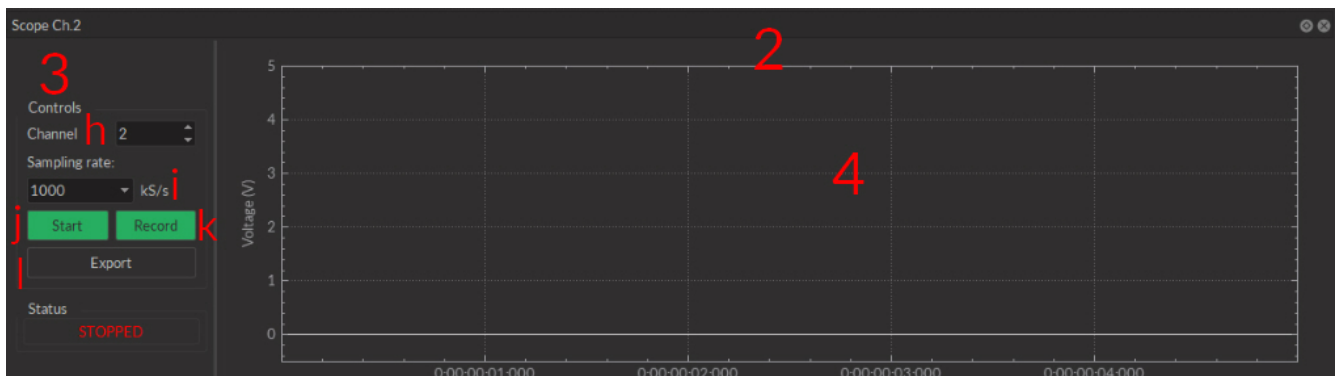

Figure 4.14: Experiment View, Scope Channel
2. The **Scope Channel** box (Fig. 4.14) is used to control and configure an active **Scope**.